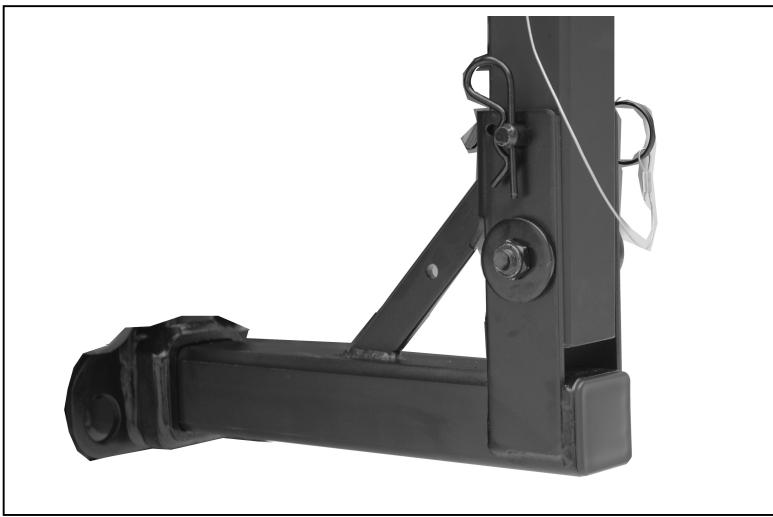

Fig. 4: Receiver Tube
2. Place a washer **B** on the end of bolt **A**, then insert the bolt through the lower hole of this bracket, and pass it through the lower hole of the upright beam. Once the bolt is protruding through the other side of the bracket, install the other washer and nut **C**. Tighten the nut securely using your adjustable wrenches or $\frac{3}{4}$ " wrenches. Insert the lynch pin through the upper hole, then install the lynch pin clip **D**. Refer to Fig. 4
11. Remove lynch pin clip and lynch pin to tilt the rack down for easy access to the rear of your vehicle. (Refer to Fig. 4